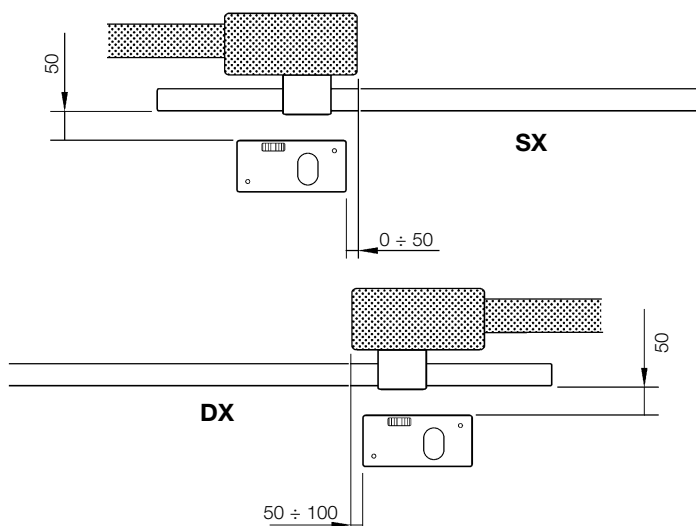
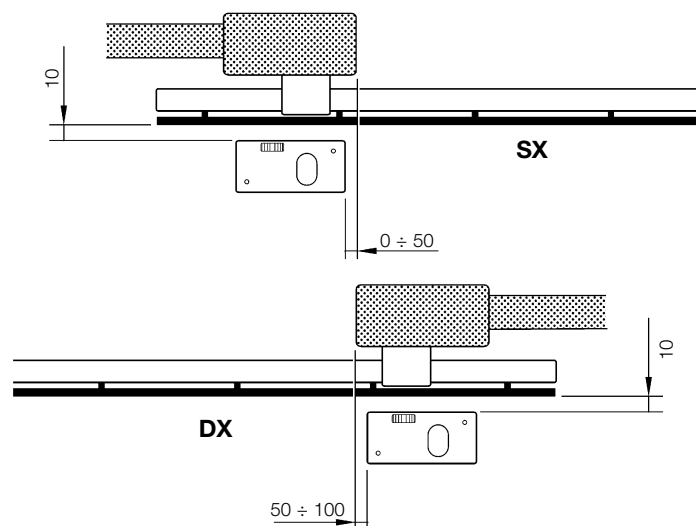
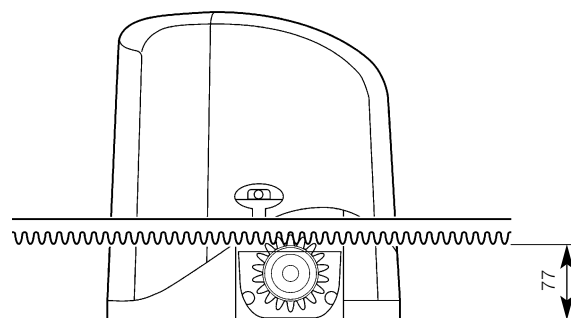

Figure 11
Figure 12
Figure 15
- Both with the gearmotor mounted to the left "LT" and to the right "RT", the distances indicated in figure 11 (gate without rack) or figure 12 (gate with rack) must be respected.
If the rack is already mounted on the gate, make sure its position is compatible with the size limits indicated in figure 15 and check that the pitch of the rack is module 4 (approx. 12mm).
1 Dig the foundations according to the "Preliminary checks" paragraph and in particular the distances indicated in figure 11 on page 7.
4 Position the foundation plate making sure that the grooved side (indicating the position of the pinion) faces the gate observing the distances shown in figure 11.
1 Dig the foundations according to the "Preliminary checks" paragraph and in particular the distances indicated in figure 12 on page 7. Make sure the foundation plate is 77 mm from the rack, see figure 15.
4 Position the foundation plate making sure that the grooved side (indicating the position of the pinion) faces the gate observing the distances shown in figure 12.